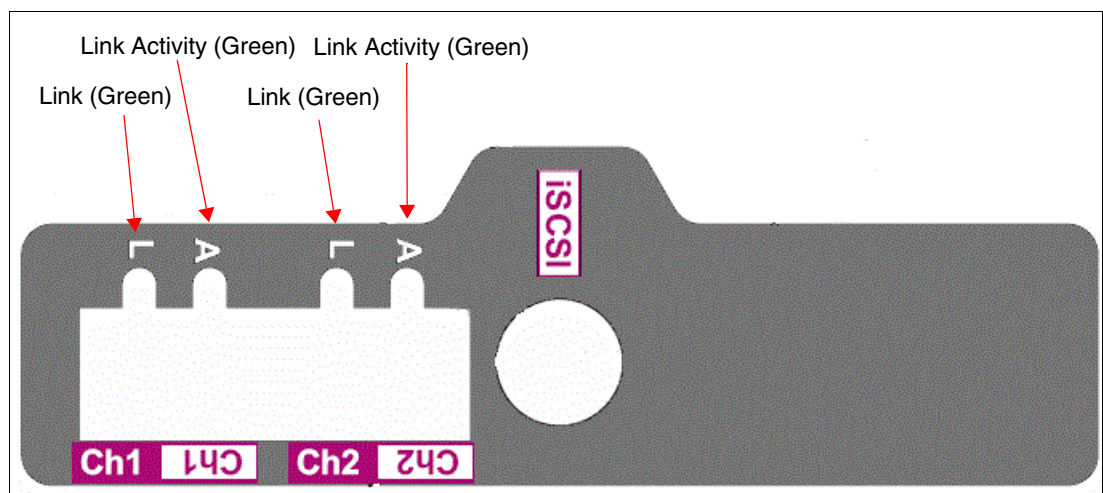

Figure 2-22 10 Gbps iSCSI faceplate design
- ▶ Figure 2-22 describes the LEDs for a 10 Gbps iSCSI HIC.